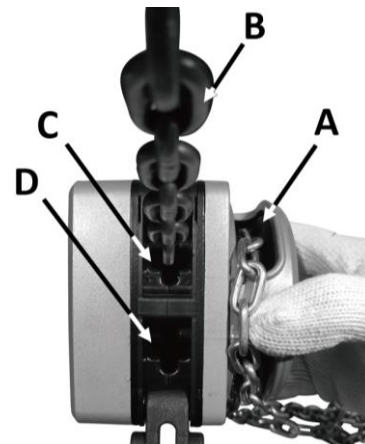

Figure 10
7. If installing entire new chain, insert the end of the hand chain into the groove at the top of the hand chain wheel (Figure 10). Rotate the hand chain wheel and pull the chain through.
Install the new load chain onto the load chain sprocket as follows, referring to Figure 10: